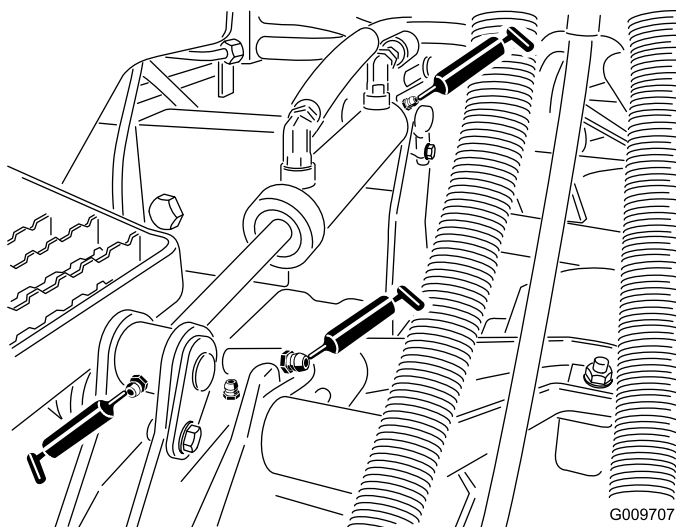

Figure 24
- Lift-arm bushings (1 per deck) (Figure 24)
- Lift-cylinder bushings (2 per deck) (Figure 24)